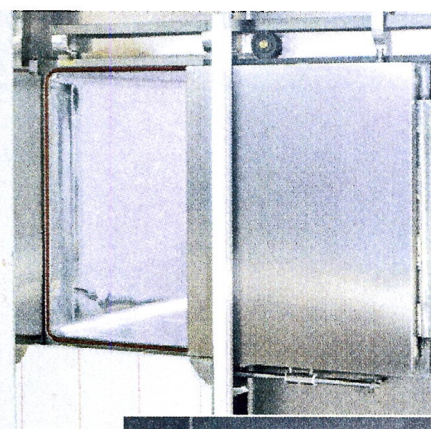

fig.2
- the air that is initially present is kept in the chamber until sterilization ends and is mixed with the steam by fans driven by a patented magnetic coupling (Fig. 2)